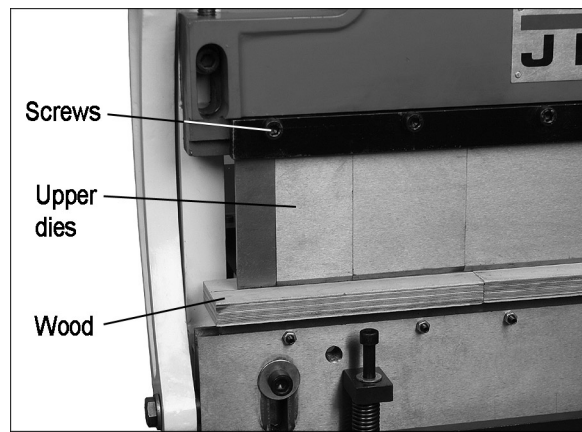

Figure 4
3. Loosen the socket head cap screws (Figure 4) using a 6mm hex key.
4. Select upper die(s) (Figure 4) for the desired job and remove the others by sliding them out the left end.
6. Securely re-tighten all screws (Figure 4), then release and remove the wood strip.